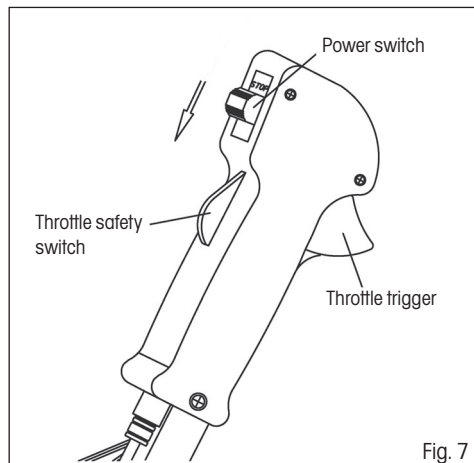

Fig. 7
1. Set the power switch to the "START" position. (see fig. 7)
- ✿ To increase speed, first use the palm of your hand to push down the throttle safety switch and then use your finger to pull on the throttle trigger (see fig. 7)